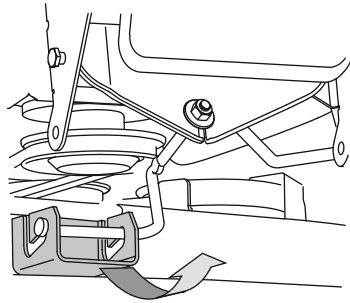

Figure 31
- On 38" decks, gently slide the cutting deck toward the front of the tractor carefully guiding the hooks on the deck on the deck off of the deck stabilizer rod. See Figure 31.